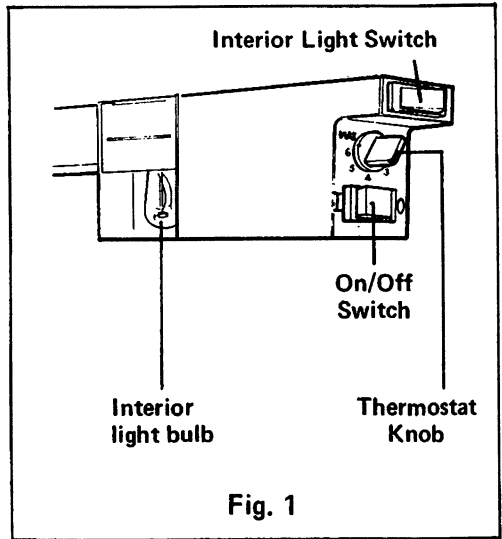

Fig. 1
The temperatures in the larder-refrigerator will be influenced by such things as its location, room temperature, and the frequency and duration of door openings. These effects can be taken care of by turning the thermostat knob (fig.1) to different settings.
- b) Is the on/off switch (fig. 1) in the 'on' position?